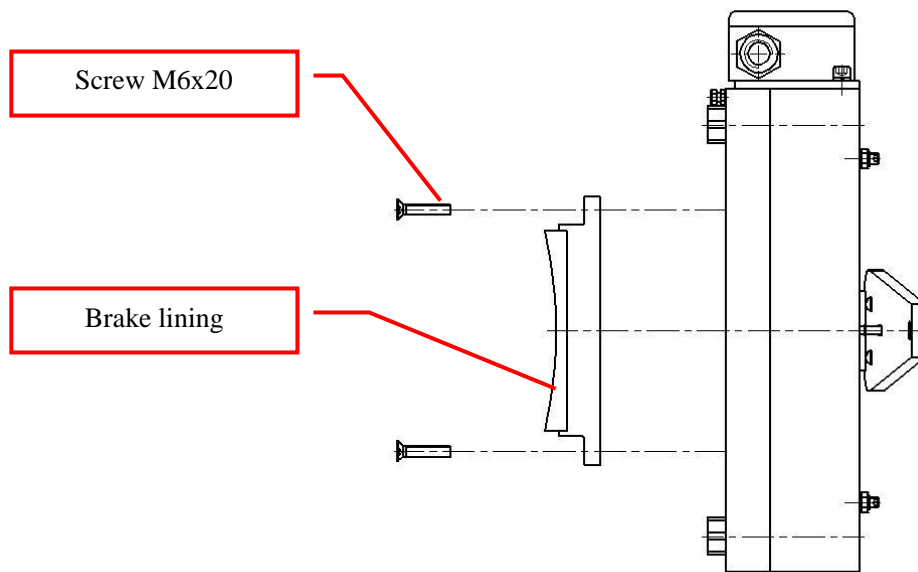

Figure 24: Install Brake lining
2. Secure the brake lining to the brake with the screws M6x20 (4) using Loctite 243. Tighten the screws to 6-8Nm (4.5-6 ft-lb). See Figure 24.